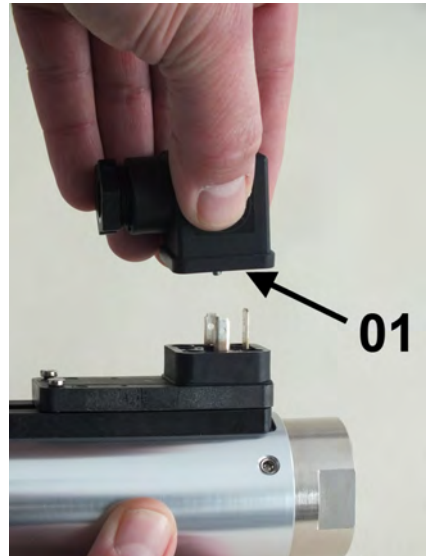

Fig. 55: Remove the female socket
2. ➤ Remove the female socket and gasket (Fig. 55/1) by pulling upwards.